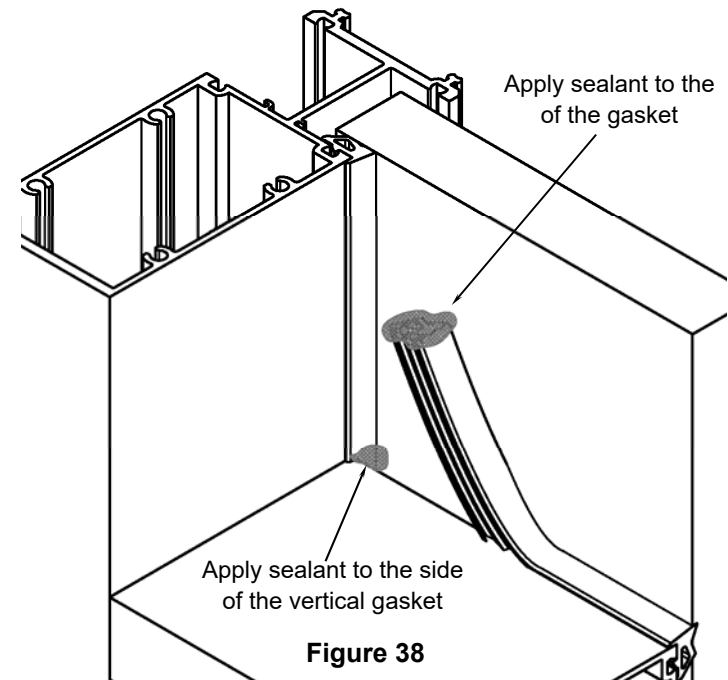

Figure 38
- Before driving in the end of the gasket , place sealant on the end, see figure 38), thus sealing the butt joint between the vertical and horizontal drive-in glazing wedge when it is installed.